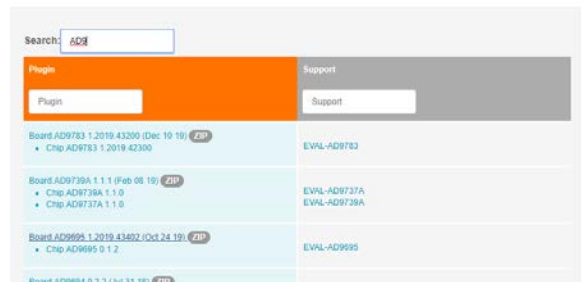

Figure 11. ACE Plug-In Web Installation
3. Click the appropriate board plug-in, as shown in Figure 11. The board plug-in automatically is downloaded to the PC. When the download is complete, locate the downloaded file. For example, **Board.AD9783.1.2019.43200.acezip**. Note that if the browser used for the plug-in download is Internet Explorer, the file extension of the plug-in file is **.zip**. If this occurs, right-click the file and rename the file extension to **.acezip**.